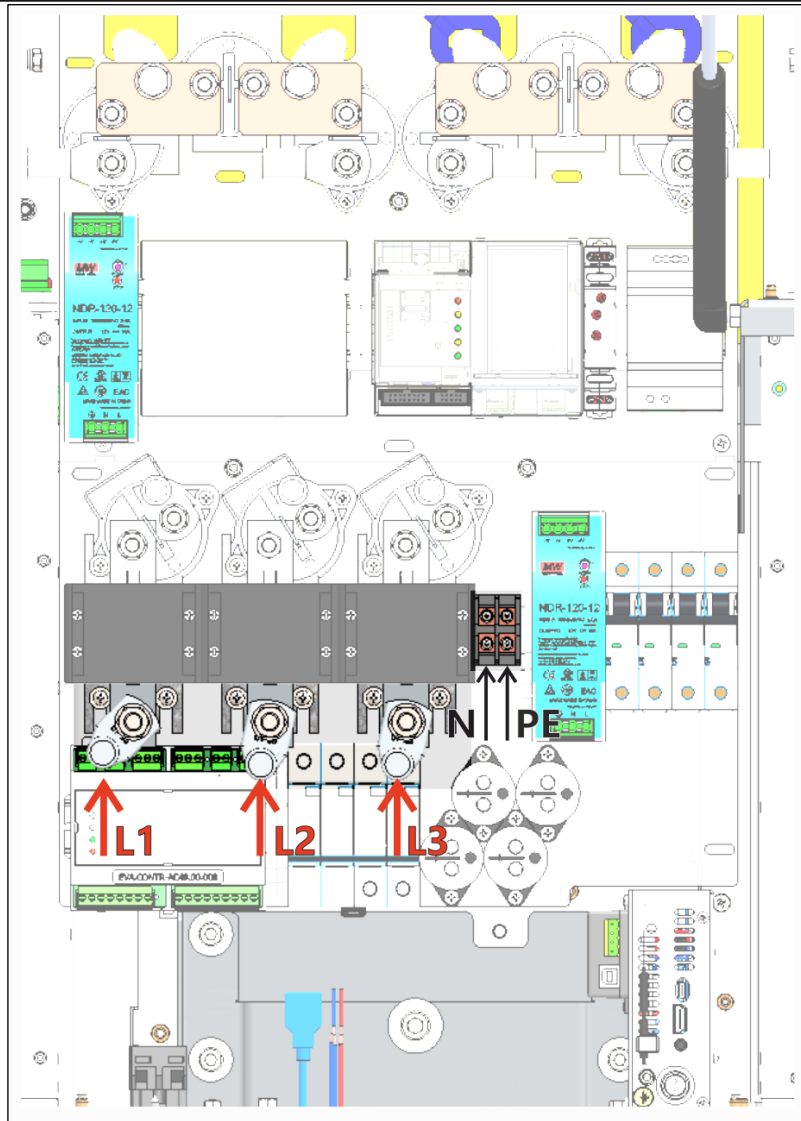

Figure 5.5. Power cable connection diagram
- Connect the power supply cable to the corresponding input busbars (as shown in Figure 5.5). In the case of connection with a 4-conductor cable, external grounding should be performed with a wire with a cross section of at least 25 mm2, using an M10 bolt connection with the inscription "RE" located in the terminal compartment.